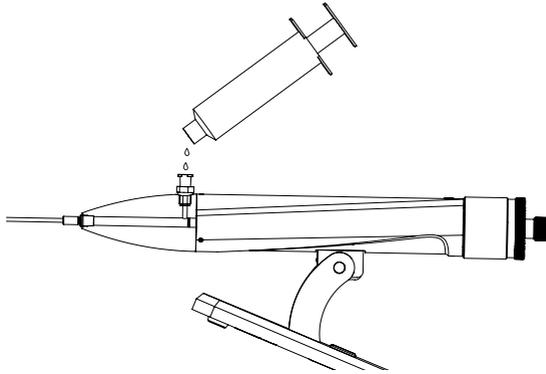
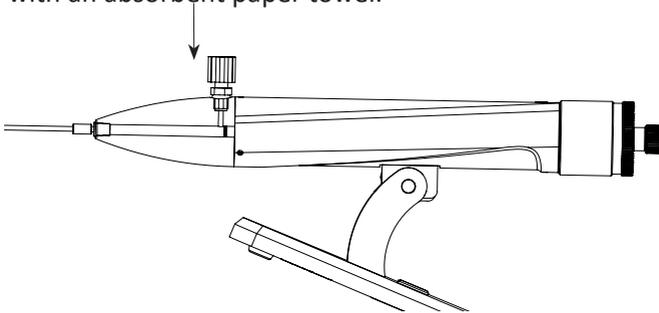

Figure 9-11
Figure 9-12
9. Now press the syringe plunger slowly to fill the cylinder and the tubing. Next fill the port and replace the cap (see Figure 9-11 and Figure 9-12 on page 47).